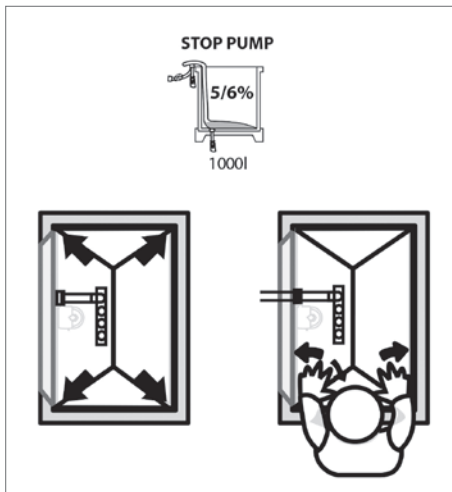

Fig. 18
5. After filling to 5 – 6% of the bag nominal volume, stop the filling and (see Fig. 18):